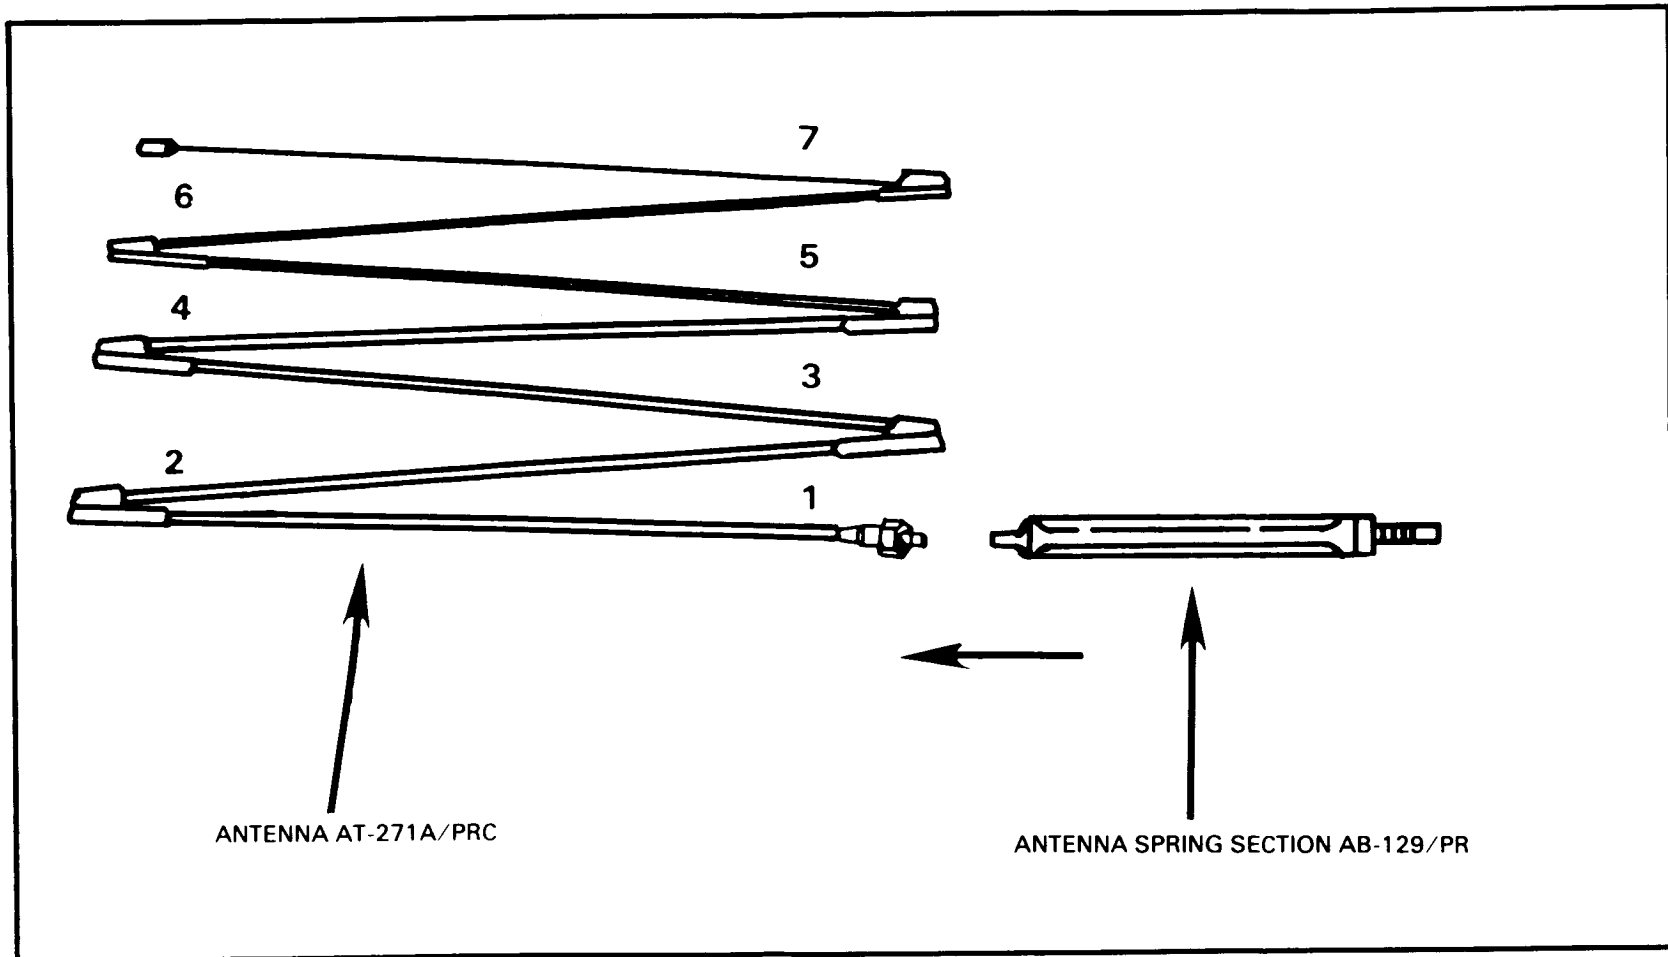

Figure 1-17. Installation of Whip Antenna AT-271A/PRC in Radio Set AN/PRC-104A.
c. The Whip Antenna AT-271A/PRC has seven sections (Figure 1-17). Each section fits into the end of a wider section. A stainless steel, plastic covered cable (or braided plastic cord), under spring tension, is threaded through the sections to keep them together in the operating condition. When the sections are folded, the cable keeps them together as a group and prevents the loss of individual sections. Spring tension is provided by a spiral spring in the base section. Spring section, Antenna Base AT-129/PR (Figure 1-17) is used to keep the antenna stable.